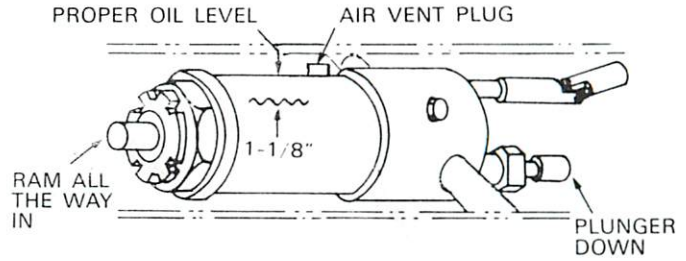

Fig. 3
**Adding Oil:** With Saddle fully lowered & jack on level ground, remove cover. (See Fig.3) Take air vent plug out and add oil. Oil level should be approx. 1-1/8" below plug hole.